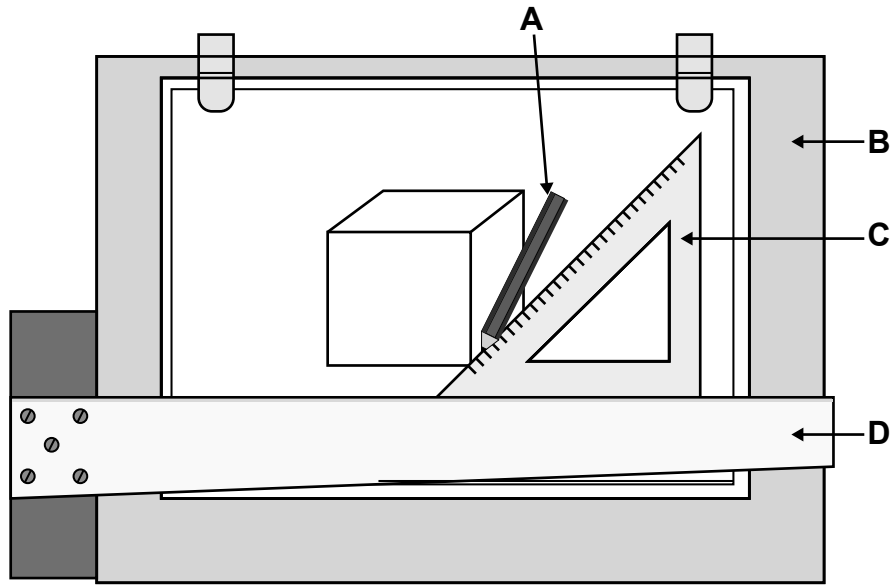

Fig. 1
- 1 Fig. 1 shows a set of Graphics Product equipment.